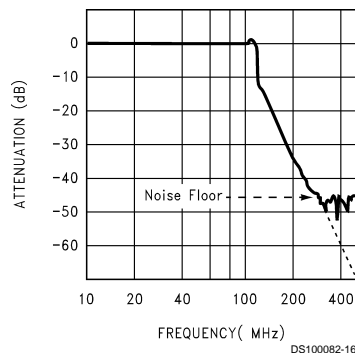

FIGURE 9.
Figure 9 shows the large signal sine wave frequency response of the LM2403. The frequency response rolls off very rapidly above the bandwidth limit of the amplifier. There are two reasons for this fast response roll-off:
2. The internal feedback network of the closed loop amplifier holds the gain at -14 until the loop gain drops below unity. Above this frequency, the amplifier response falls with the open loop gain of the amplifier, as the feedback ceases to have any significant effect. There is also a change in the impedance match between the op-amp and the emitter follower output stage with large signals at higher frequencies. This creates a gain boost that extends the bandwidth, then gives a sudden roll off as shown in *Figure 9*. The exact response of this roll off may vary slightly depending upon operating conditions, signal amplitude etc.